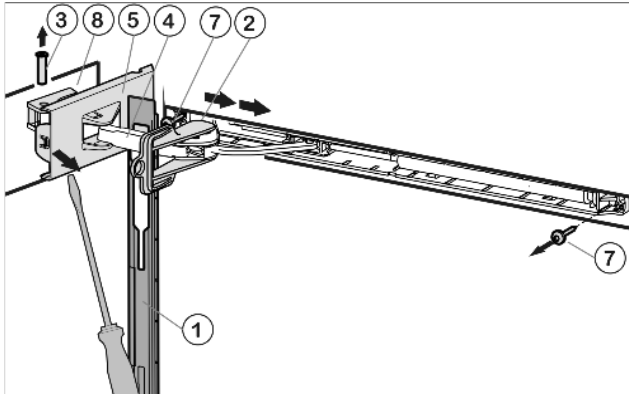

Fig. 5
- ▶ Slide the faceplate over the soft stop bracket Fig. 5 (4) in the direction of the appliance.
- ▶ Snap the safety lock Fig. 5 (2) into the oblong hole.
- ▶ Using a screwdriver, detach the cover on the hinge side Fig. 5 (5) as far as the first detent.
- ▶ Press the pin Fig. 5 (3) out from underneath.
- ▶ Press the soft stop bracket Fig. 5 (4) towards the door.
- ▶ Fully detach the cover on the hinge side Fig. 5 (5) and remove it.
- ▶ Remove the faceplate Fig. 5 (1).
- ▶ Unscrew the soft stop unit (2 Torx 15) Fig. 5 (7).